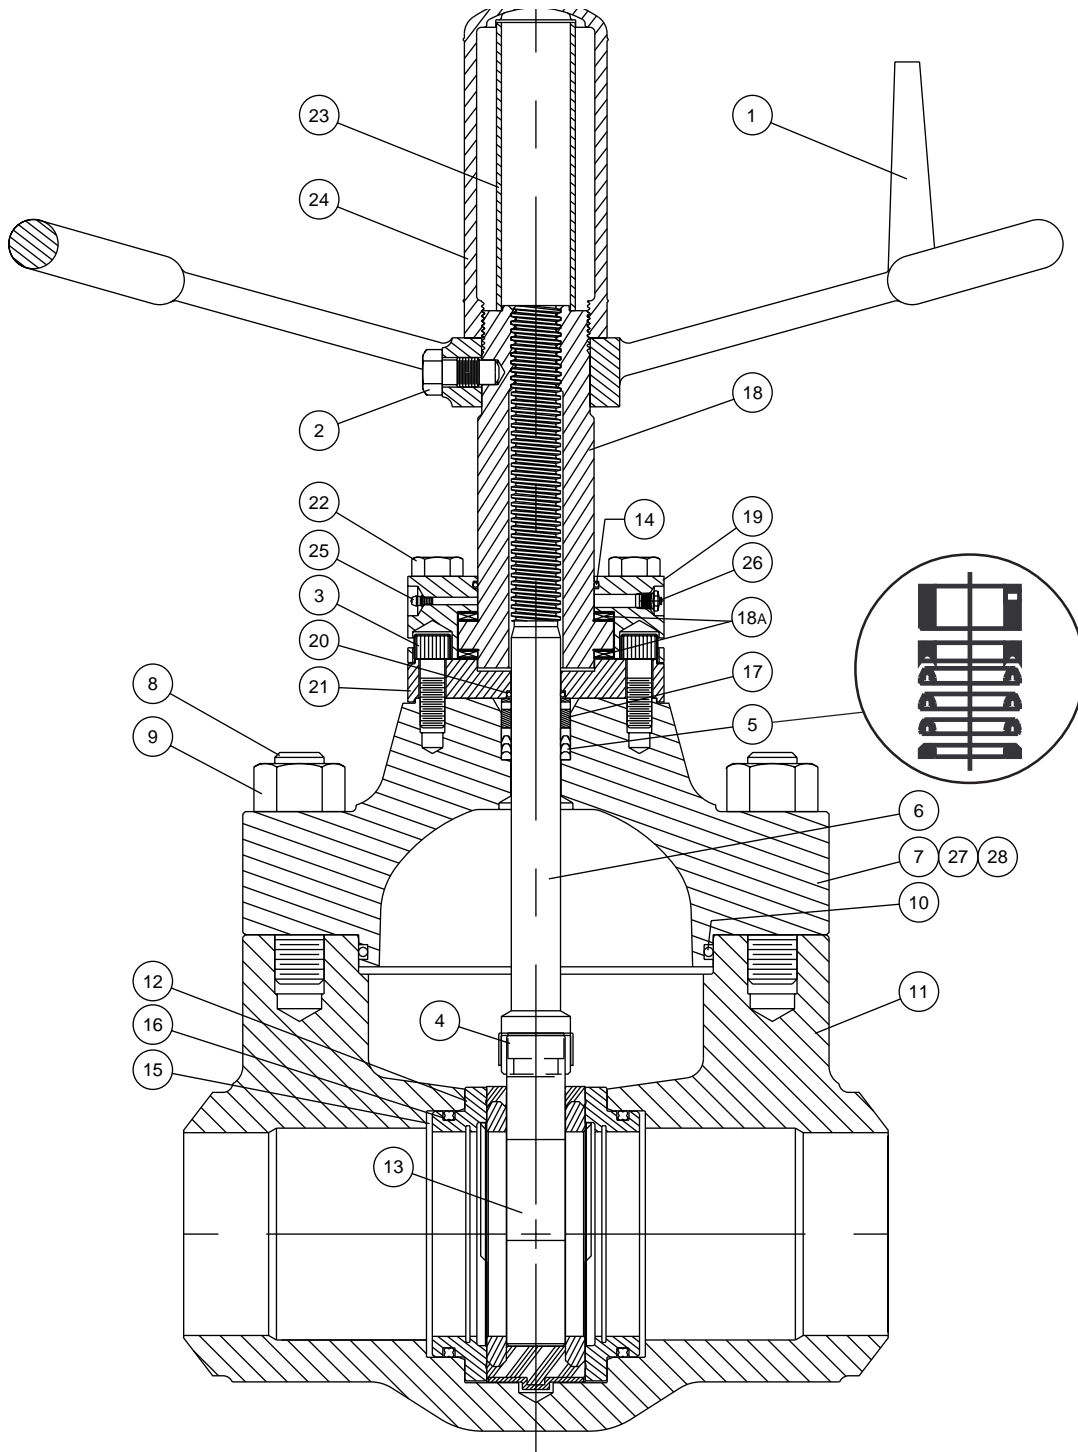

Figure 7 - 4", 5" and 6" Series DM 7500 Gate Valve
The stem seal sub assembly (5) consists of a bottom adapter ring, a soft rubber (special) seal ring, two fiber-reinforced seal rings, a flat-backed follower ring and a bushing. These parts must be assembled over the stem (in the order listed) with the hollow side down, as shown (See Figure 7).